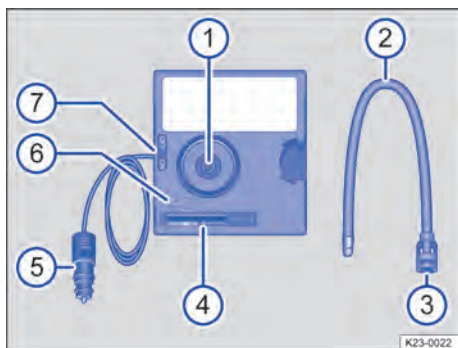
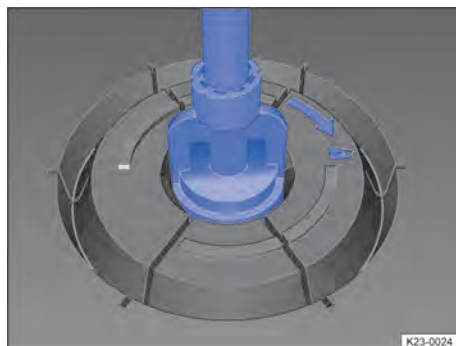
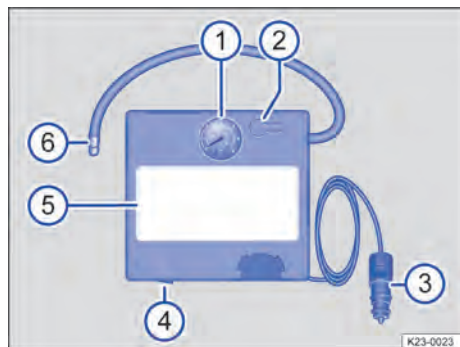

Fig. 223 Compressor in the breakdown set (illustration).
Fig. 224 Connecting the tyre filler hose.
Fig. 225 Compressor in the breakdown set (illustration).
1. Remove the tyre filler hose → Fig. 223 ② from the rear of the compressor.
2. Insert the tyre filler hose → Fig. 223 ② with the wing nut ③ into the mount for the tyre filler hose ① so that the wing nut is pointing to ⚙.
3. Turn the wing nut → Fig. 223 ③ in clockwise direction until the wing nut is pointing to ⚙ → Fig. 224.
4. Screw the tyre filler hose → Fig. 223 ② of the compressor tightly onto the tyre valve.
6. Insert the 12-volt plug → Fig. 223 ⑤ into one of the vehicle's 12-volt sockets → page 231.
7. Switch on the compressor with the ON/OFF switch → Fig. 223 ⑦.
1. Screw the tyre filler hose → Fig. 225 ⑥ of the compressor tightly onto the tyre valve.
3. Insert the 12-volt plug → Fig. 225 ③ into one of the vehicle's 12-volt sockets → page 231.
4. Switch on the compressor with the ON/OFF switch → Fig. 225 ④.
5. Run the compressor until the pressure has reached 2.0 – 2.5 bar (29 – 36 psi/200 – 250 kPa). **Maximum running time: 10 minutes** → ①.
2. Reconnect the tyre filler hose → Fig. 223 ① or → Fig. 225 ⑥ and read the tyre pressure on the tyre pressure display → Fig. 223 ④ or → Fig. 225 ②.